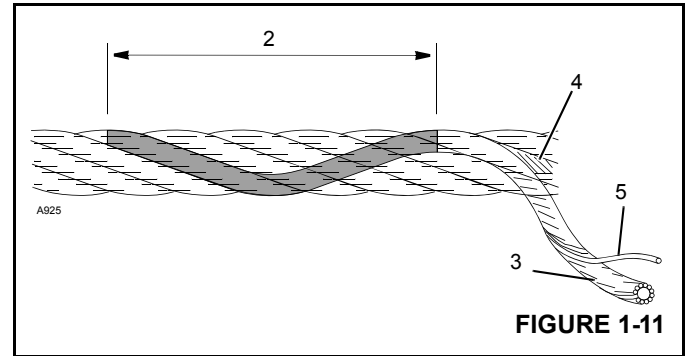

FIGURE 1-11
- When checking for broken wires (5) Figure 1-11 relax the rope, move it off “pick-up points”, and flex it as much as possible. Defect in the rope is spoke of in relations to “Lay Length” (2) which is the distance measured along rope in which one strand (3) makes one complete revolution around core (4).